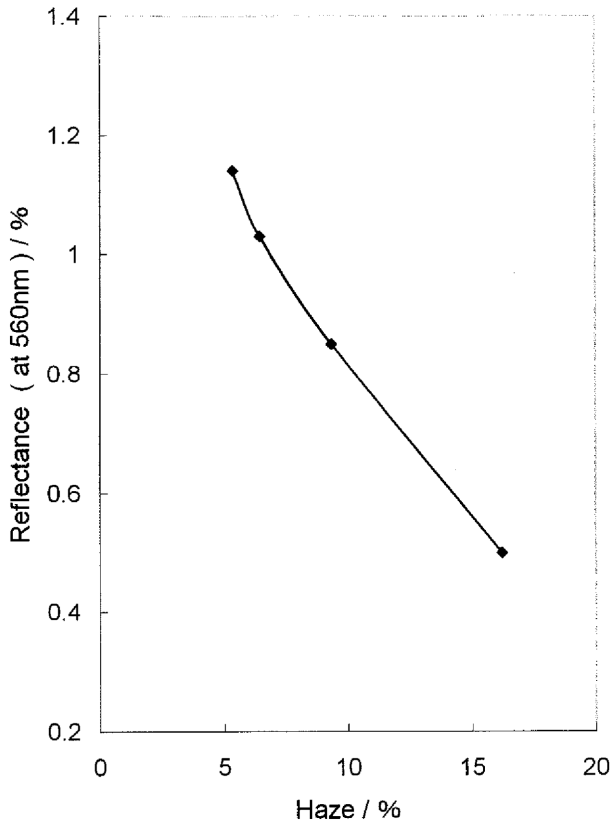

Fig. 2 Haze vs. reflectance
2) The haze (cloudiness) can be regulated by changing the spraying conditions. A higher haze increases the surface scattering effect, thereby reducing the reflectance to a more desirable level (Figure 2).